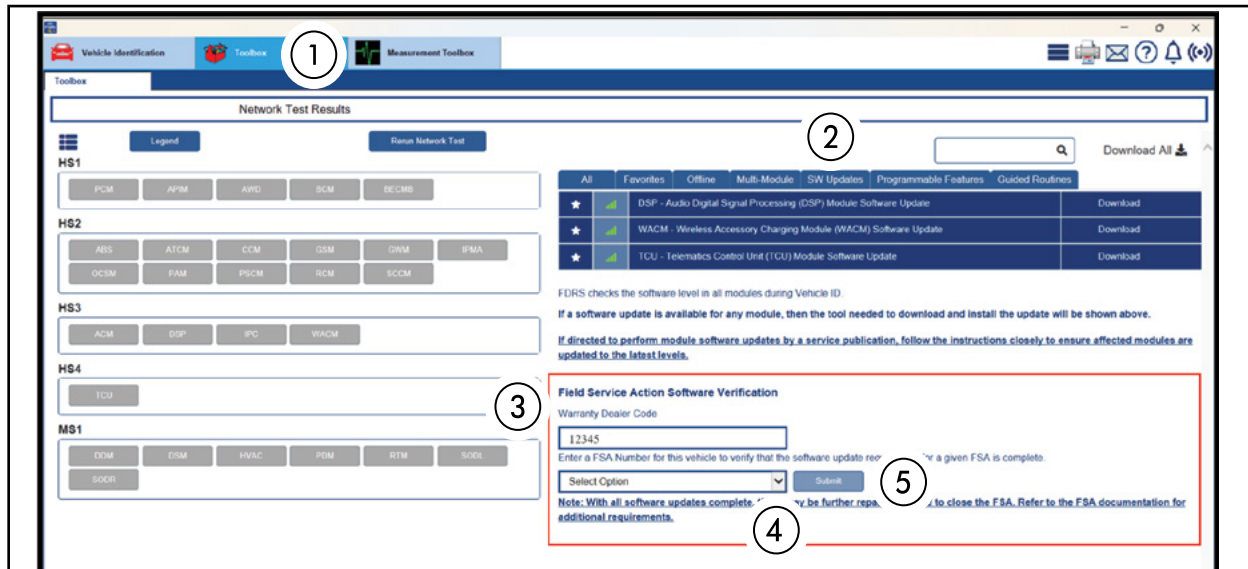

FIGURE 2
9. Select the **Toolbox** (1) tab. See Figure 2.
10. Select the **SW Updates** (2) tab. See Figure 2.
11. **Warranty Dealer Code** (3) - Change the displayed PA code as necessary. See Figure 2.
12. Select the **FSA** (4) from the drop-down menu. See Figure 2.
13. Select **Submit** (5). See Figure 2.